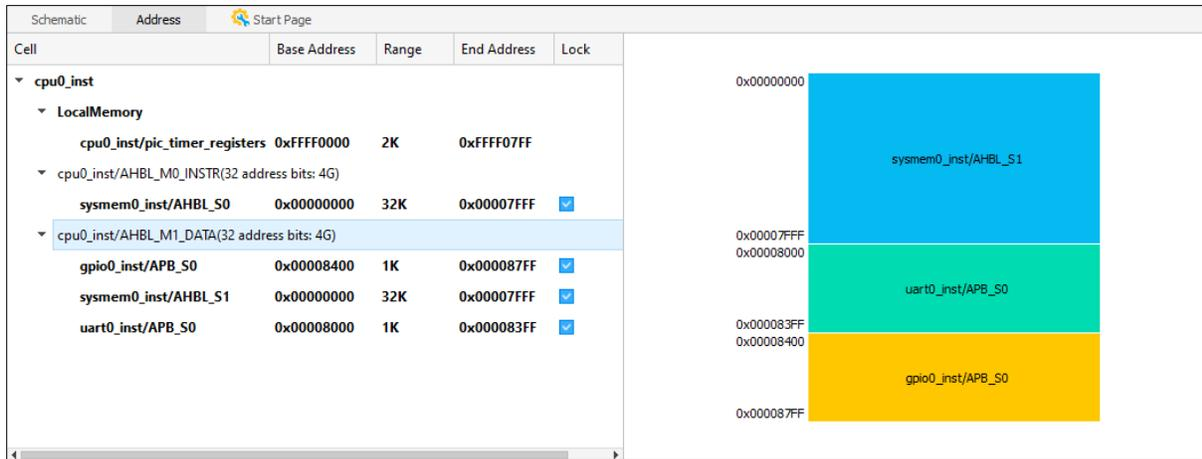

Figure 2.79. Address View
1. In the Propel Builder main window, click the Address tab. The Address view (Figure 2.79) shows.